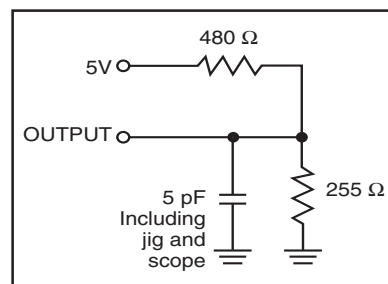

Figure 2
2. Tested with the load in Figure 2. Transition is measured  $\pm 500$  mV from steady-state voltage. Not 100% tested.